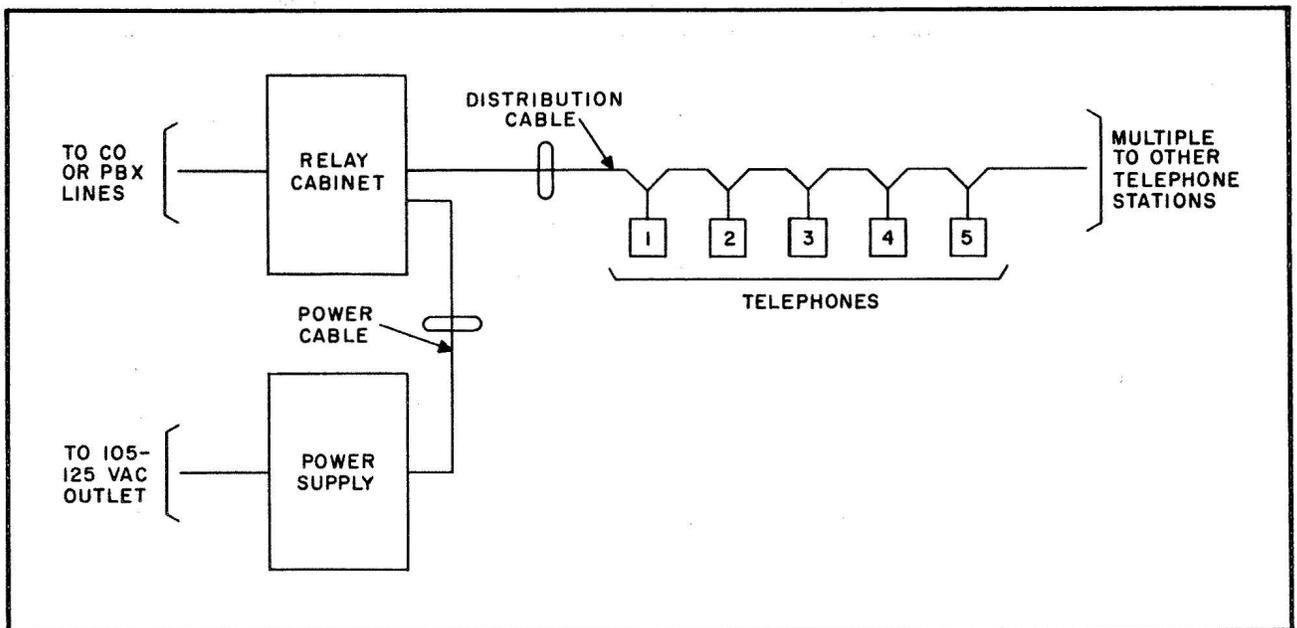

Figure 11. Typical Multiple Cabling System
- Figure 11. Typical Multiple Cabling Plan
If the multiple cabling plan is used, the cable is run from the relay cabinet to each telephone as shown in figure 11. When using this system two cables are connected at each telephone, except the last. One cable is connected to the preceding telephone and the other to the succeeding telephone.